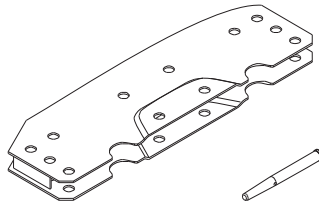

Fig. D2.01
- as a fixing point for diagonal bracing. (Fig. D2.01)